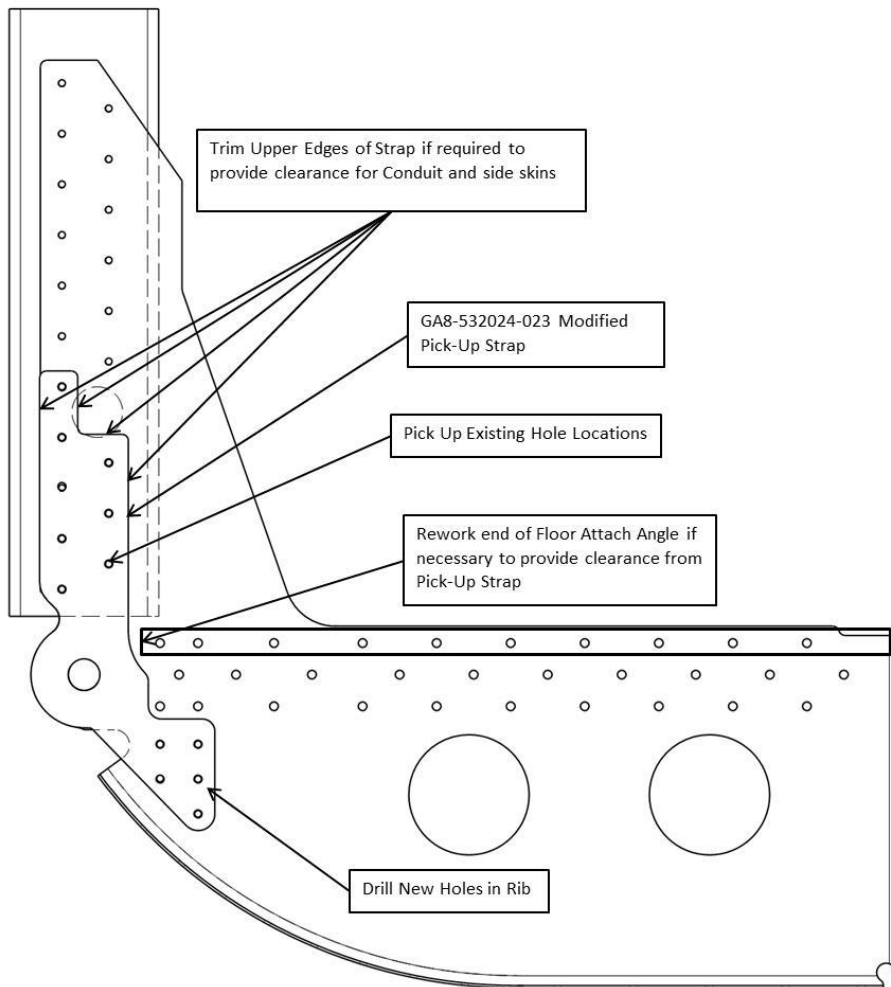

Figure 25: Typical installation of Temporary Doublers (Rib #5 and GA8-532024-021 shown)
- 4) Position the Modified Fwd and Aft Strut Pick-Up Straps on Rib 5 and 6 (See Figure 25).
- 6) Verify adequate structural clearance is obtained from adjacent structure including the Floor Attach Angle (GA8-532021-033), cabin sidewall skins and the Cockpit Door Aft Gusset (See Figure 25).
- 7) If required, trim the outboard end of Floor Attach Angle (GA8-532021-033) to ensure clearance from Modified Fwd and Aft Strut Pick-Up Straps (See Figure 25).
- 8) If required, trim the upper edges of the Modified Fwd and Aft Strut Pick-Up Straps to ensure adequate structural clearance from the cabin wall side skin (See Figure 25).
- 9) If required, trim the upper edges of the Modified Fwd Strut Pick-Up Strap to provide clearance for the aileron cable conduit penetration (See Figure 25).
- 13) Drill fastener holes using a #20 drill to a diameter of 0.161" through the web of Rib 5 and 6 using the pilot hole locations in the lower leg of the Modified Fwd and Aft Strut Pick-Up Straps (See Figure 25). De-burr holes.
- 14) Install CR3213-5-03 rivets (confirm grip length prior to installation) at the existing hole locations in the Rib and Main Spar Side Pillar Assembly (See Figure 25).
- 15) Install CR3213-5-03 rivets (confirm grip length prior to installation) at the new hole locations in the Rib and Modified Fwd and Aft Strut Pick-Up Straps (Qty 5 per Rib, See Figure 25).